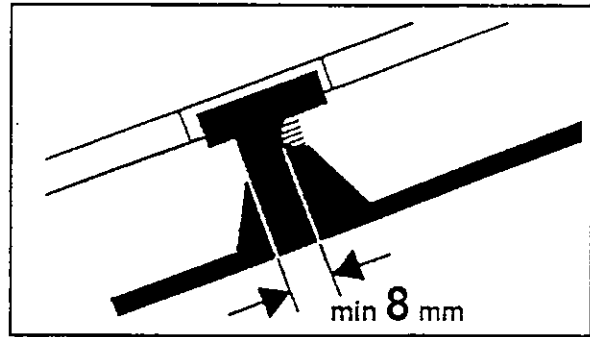

fig. 4-36
- the pin wears down to 8 mm (fig. 4-36).